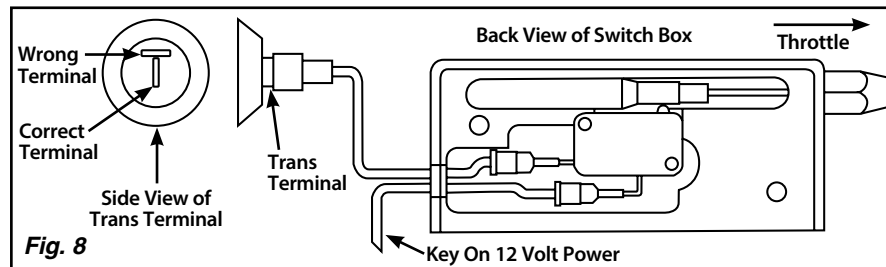

Fig. 8
Step 12: Connect one of the wires from the aluminum switch box to a switched power source with a 5 amp or greater fuse. Install the remaining large wire terminal onto the end of the other wire, and connect it to the **vertical** terminal on the detent solenoid on the transmission. **Fig. 8**